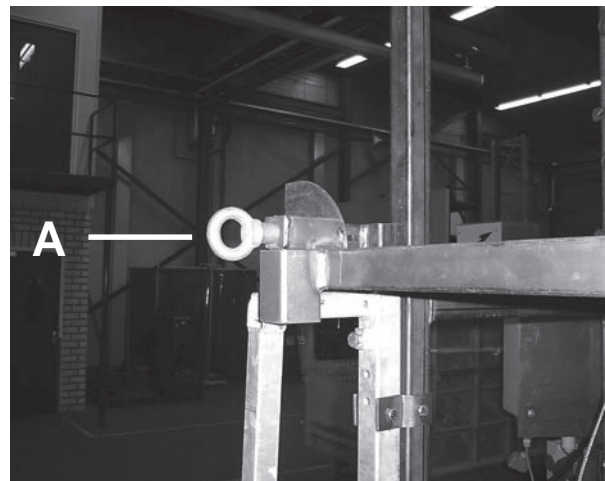

Fig. 7-13-4 Raising
- Raise the landing barrier (fig. 7-13-4, A) and secure it.